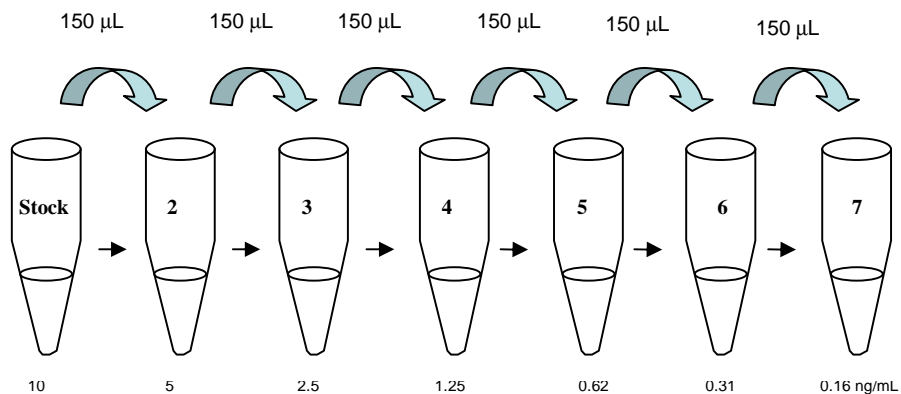

Figure 1: Recommended 2-fold Serial Dilution of Standard
- Standards #3-7 are then prepared by performing a 2-fold serial dilution of the preceding standard. Refer to Fig. 1. For example, to make Standard #3, remove 150 μ L of Standard #2 and add it to tube #3 and vortex and so on. Do not add any Standard to the "0 Dose" Standard tube.